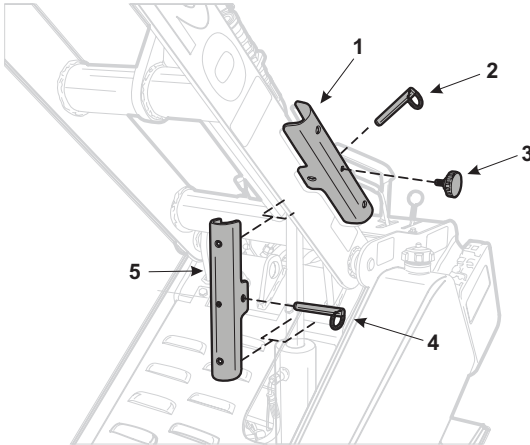

Figure 3-10 Safety Lock Installation
4. Release the cylinder lock from its storage position (Item 1, **Figure 3-10**) by removing the lock knob (Item 3, **Figure 3-10**) and pulling the safety lock pin (Item 2, **Figure 3-10**).
5. Place the cylinder lock (Item 5, **Figure 3-10**) onto the cylinder rod.
6. Fully reinsert the safety lock pin (Item 4, **Figure 3-10**), securing the cylinder lock in the support position.
3. Pull the safety lock pin (Item 4, **Figure 3-10**) fully outwards.
4. Return the cylinder lock to the storage position (Item 1, **Figure 3-10**) on the loader arm.
5. Fully insert the safety lock pin (Item 2, **Figure 3-10**) and the lock knob (Item 3, **Figure 3-10**) to secure the cylinder lock in the storage position.